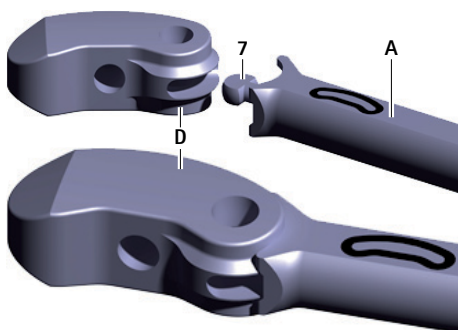

Fig. 2 Coupling the trial implant to the insertion instrument
- Couple the trial implant **D** to the dihedron **7** on the insertion instrument **A**, see Fig. 2. When doing so, pay attention to the orientation of the trial implant (orientation according to the marking on the insertion instrument).